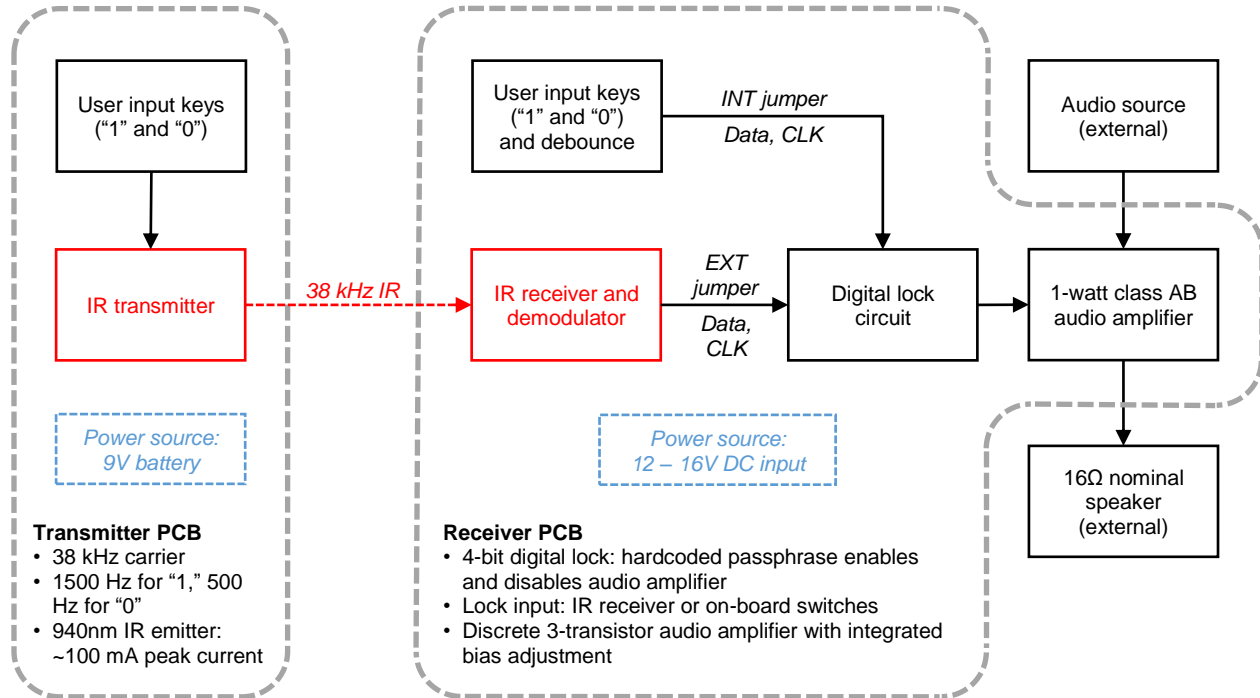

Figure 1: Design project block diagram
The design project is a fully self-contained, **password-protected audio amplifier**. When the correct 4-bit password is entered via the user input keys, the amplifier will be activated. Optionally, an **infrared (IR) remote** may be constructed and used to implement remote password entry. The block diagram for the design project, as discussed in lecture, can be seen in Figure 1.